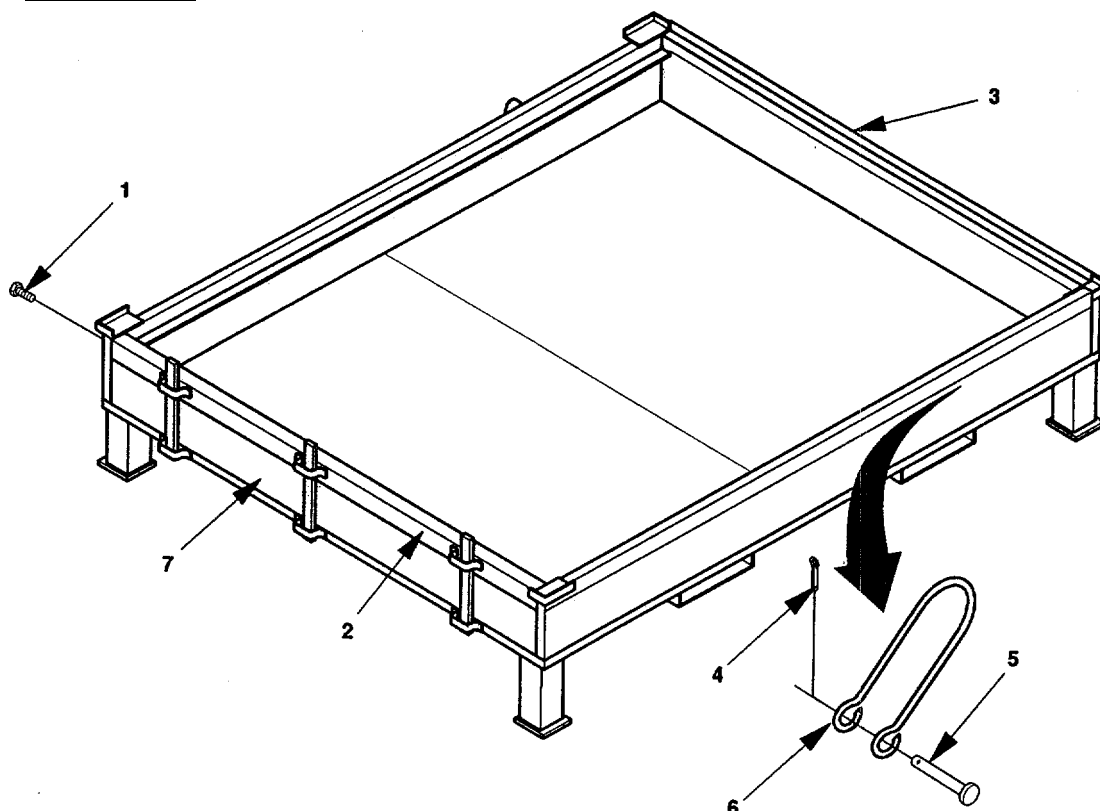

Figure 4-7. Flaking Box Assembly Maintenance.
- a. Remove two bolts (Figure 4-7, 1) and tie bar (2) from flaking box assembly (3).
- b. Remove and discard four cotter pins (4).
- c. Remove four clevis pins (5) and clevises (6) from flaking box assembly (3).
- d. Remove tailgate assembly (7) from flaking box assembly (3).
- a. Inspect tie bar (2), flaking box assembly (3), clevis pin (5), clevis (6), and tailgate assembly (7) for corrosion, cracks, bends, and damage.
- b. Inspect two bolts (1) for corrosion and damage.